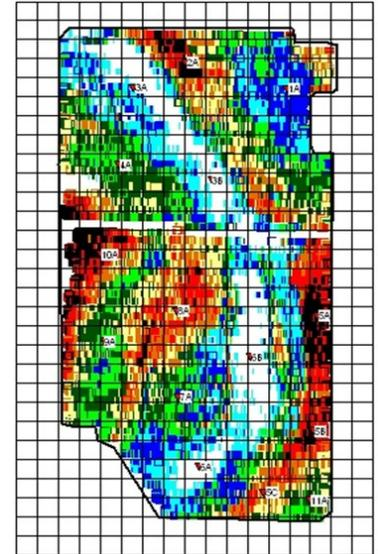

Fig. 4. Example “variability map” derived by operating an EM instrument.
Figure 4 provides an example variability map developed with one of these techniques (EM). An EM instrument was towed in a serpentine pattern at a 60-foot spacing and provided multiple transects of electrical conductivity measurements. Electrical conductivity of the soil was measured at over 5000 points in this orchard and then the map was developed by interpolation. The white and lighter gray areas represent soils with very low and low electrical conductivity, respectively. The dark gray and black areas represent soils with medium and high electrical conductivity, respectively.